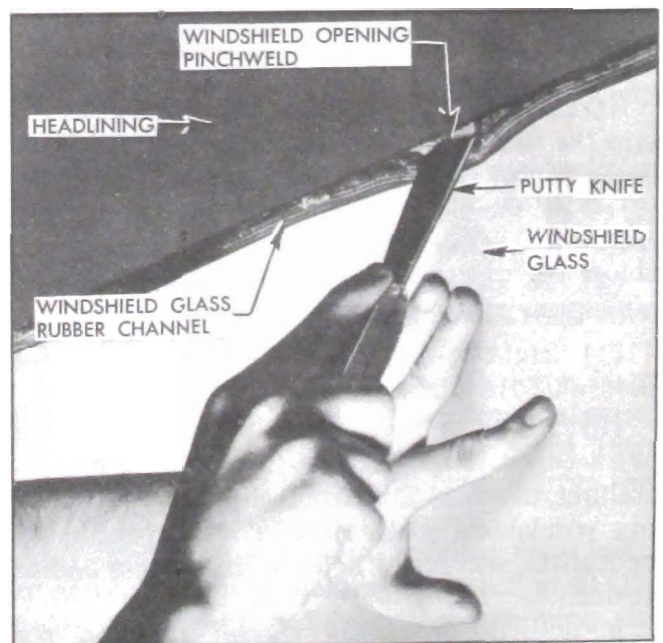

Figure 13-6—Windshield Glass Removal
6. Apply outward pressure close to edge of glass with palm of hand and, using putty knife, work lip of rubber channel over pinchweld flange. See Figure 13-6.